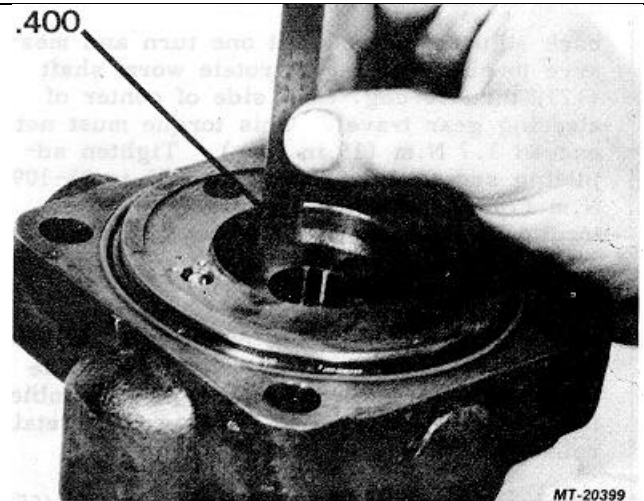

Fig. 33
26. Assemble valve sleeve (15) with thrust washer attached down into valve housing (9). When valve sleeve is down into place in valve housing, it should measure approximately 10.2 mm (.4 in.) from face of valve housing to face of valve sleeve (Fig. 33).